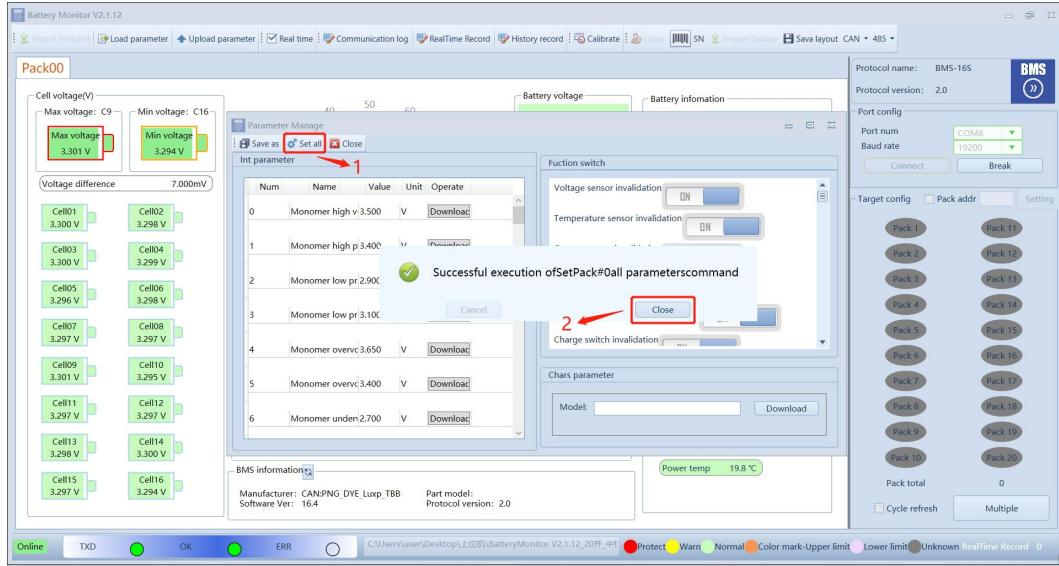

Figure 6-3
- 3) Click "Set All", the prompt box pop up, and then click "Close" to complete the configuration,Figure 6-3